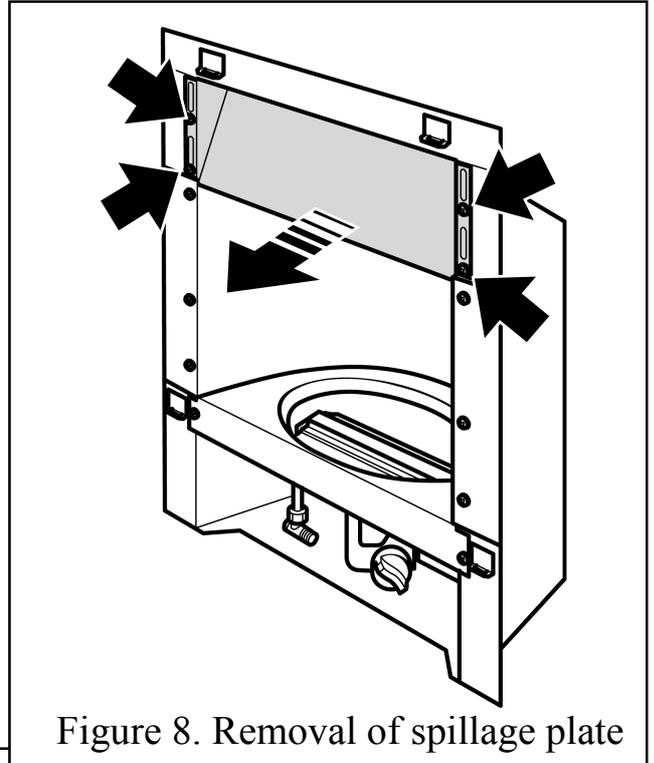

Figure 8. Removal of spillage plate
1. Detach the spillage plate from the hotbox by removing the four screws (See figure 8).